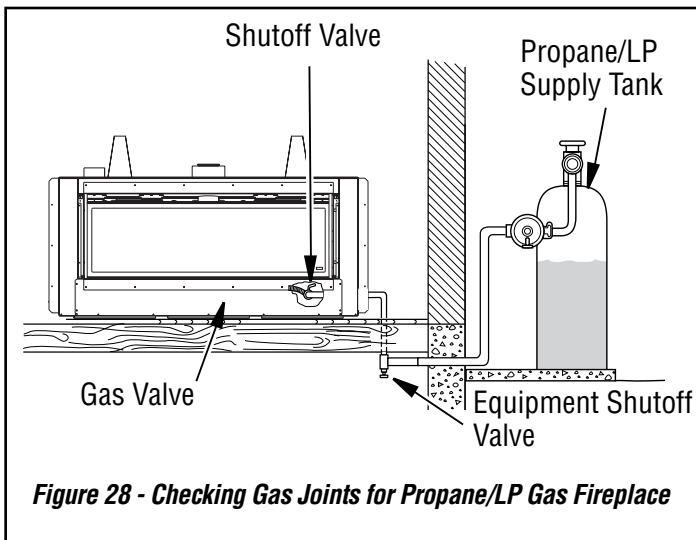

Figure 28 - Checking Gas Joints for Propane/LP Gas Fireplace
3. Check all joints from propane/LP supply tank or gas meter to equipment shutoff valve (see **Figure 28 or 31**). Apply noncorrosive leak detection fluid to all joints. Bubbles forming show a leak.
5. Check all joints from equipment shutoff valve to gas valve (see **Figure 28 or 31**). Apply noncorrosive leak detection fluid to all joints. Bubbles forming show a leak. Correct all leaks at once.